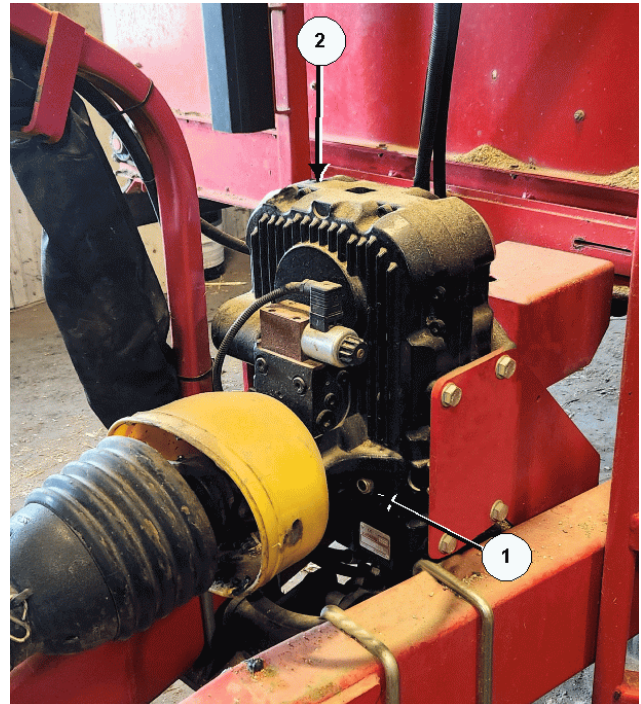

Figure 14: Check the oil in the gearbox
1. Check the oil level in the gearbox, see *Figure 14*.
- b. Oil should be showing in the sight glass (1).
- c. If needed, fill the gearbox with Universal Tractor Transmission Oil (UTTO) through the port at the top of the gearbox (2).